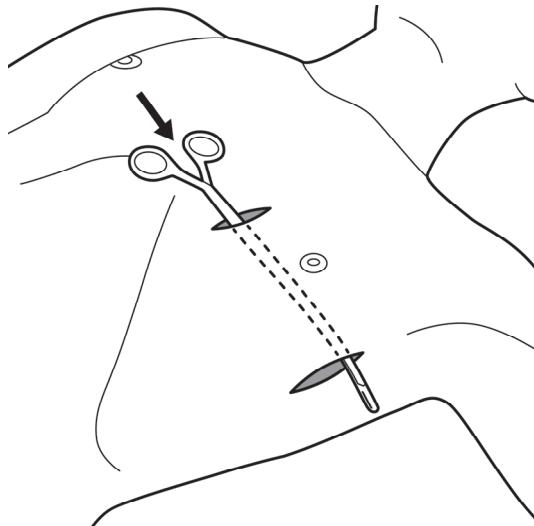

Figure 24: Direct Tunneling Tool through intercostal muscle and anterior tissue layers from Transmitter incision to Battery pocket
12. For proper stabilization, the tunnel must traverse the anterior surface of the intercostal muscle for at least 9 cm. After this point the tunneling tool can be directed through anterior tissue layers until the distal tip of the tunneling tool enters the Battery pocket. See Figure 24.